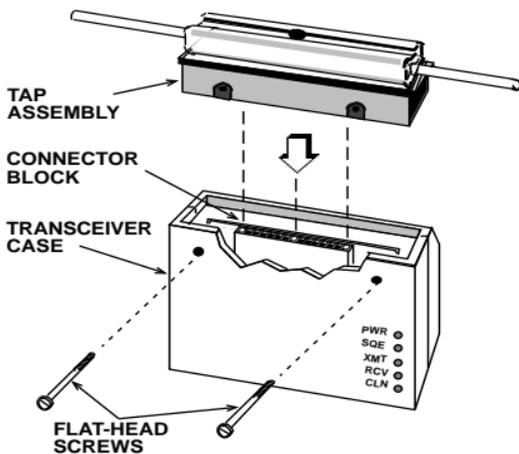

Figure 2-7. Installing the Tap
8. Insert and tighten the flat-head screws shown in Figure 2-7.